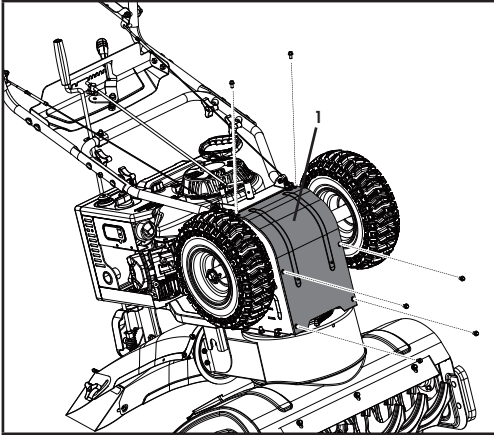

Figure 27
- Remove the base frame cover (1) from the underside of the snowblower by removing the six M6 × 16 screws which secure it (Fig 27).